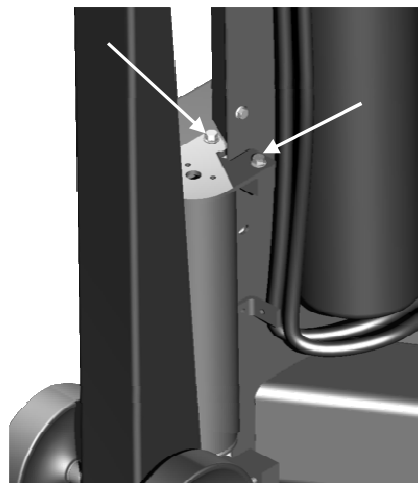

Figure 4
5. Remove the two bolts shown in Figure 4 using a 9/16" wrench or socket. After these bolts are removed the mechanical handle is free from the lift and can be removed.